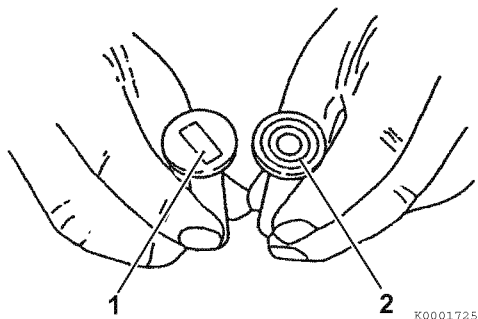

Figure 6-120
1. Inspect the tappet contact surfaces for abnormal wear (1, **Figure 6-120**). Normal wear will be even as shown in (2, **Figure 6-120**). Slight surface defects can be corrected using an oilstone.